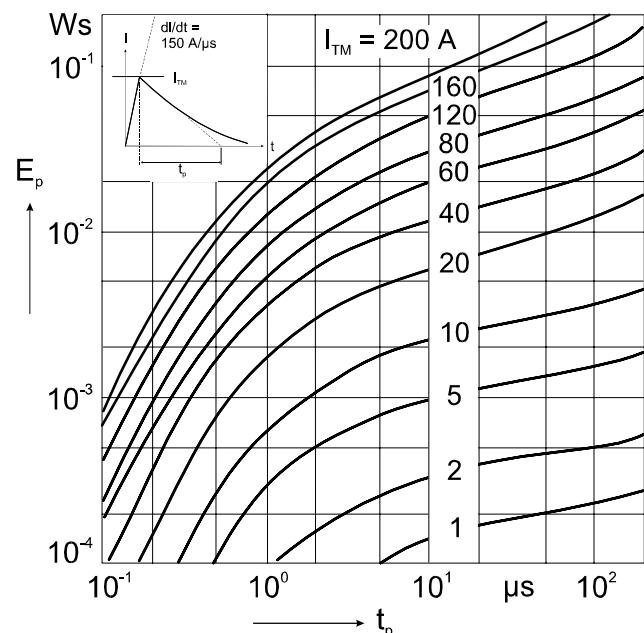

Fig. 6 Energy per pulse for single BOD element for exponentially decaying current pulse. E_p must be multiplied by number of elements for total energy.
- a. The maximum junction temperature shall be calculated for a module IXBOD 1 -30R at an ambient temperature $T_a = 60^\circ C$, an exponentially decaying current $I_{TM} = 40A$, a pulsewidth $t_p = 2 \mu s$, an operating frequency $f = 50 Hz$ and natural convection. From the diagram Fig. 6 the energy per pulse is obtained: